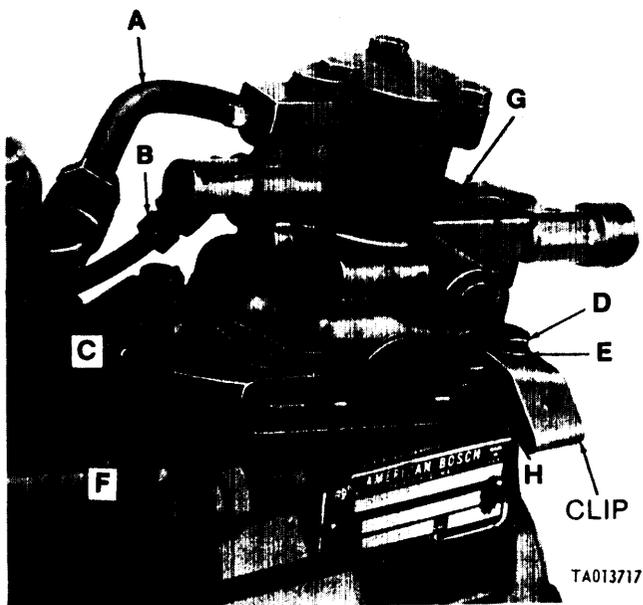

Figure 3-8. Removing fuel density compensator (code A, B, C, D, E and late code F pumps).
(2) Code A, B, C, D, E and late F injection pumps. Refer to figure 3-8. Remove tube assembly (A) from tee and from elbow in hydraulic head. Disconnect tubing (B) from elbow. Remove and discard locking wire and seal (C). Remove four capscrews (D), lockwashers (E), tamper proof cover (F) and clip securing compensator to governor housing. Tap fuel density compensator (G) with a soft hammer to break gasket seal and remove fuel density compensator assembly (G) and gasket (H) from governor housing. Discard gasket and retain compensator assembly for possible repair.